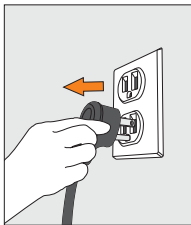

Figure 24
**External:** Disconnect power supply cord (Figure 24), use only mild dishwashing liquid or cleaning products and a soft cloth for cleaning the exterior surfaces (Figure 25 and Figure 26). **DO NOT** USE bleach or abrasive cleaners. Use a vacuum cleaner to remove dirt and lint from the condenser (Figure 27). The unit should be cleaned every 3 months, except where fingers touch the temperature selectors, which can be wiped often with hygienic wipes or mild cleaning products.